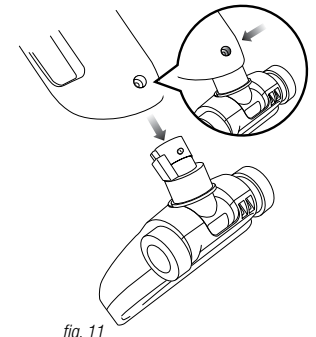

fig. 11
- 2 Press the release button located on the rear of the main body and remove the motorized brush. (fig. 11)